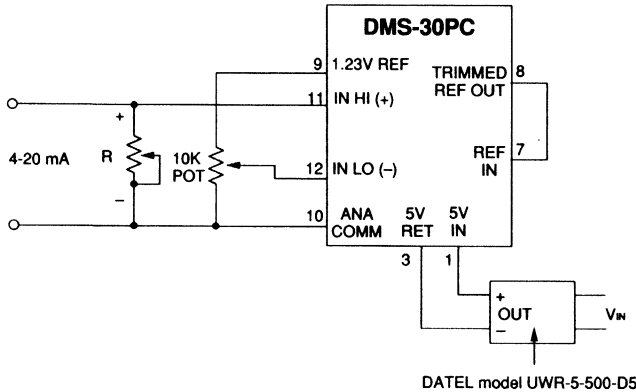

**Figure 2. Simple Attenuation Circuit for Scaling Input Voltages**
**Engineering Scaling** - One of the most common physical parameters measured with the DMS-30PC is voltage. For measuring voltages larger than the full scale input range of the meter, the input signal must be attenuated. The simple voltage divider circuit shown in Figure 2 allows scaling the input to a voltage that is within the range of the DMS-30PC model that you are using.